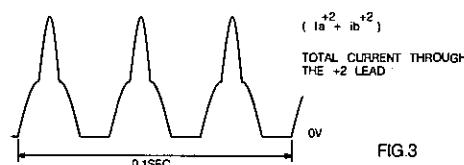

FIG.3
6. With a disc on the turntable, put the set in service-loop 0. (See trouble shooting). Switch S on and adjust the trimming potentiometer back in such a way that 3 complete pulses are visible during 0.1 sec. (fig. 3). The polarity of the oscilloscope must be chosen so that the tops of the pulses are in upward position.